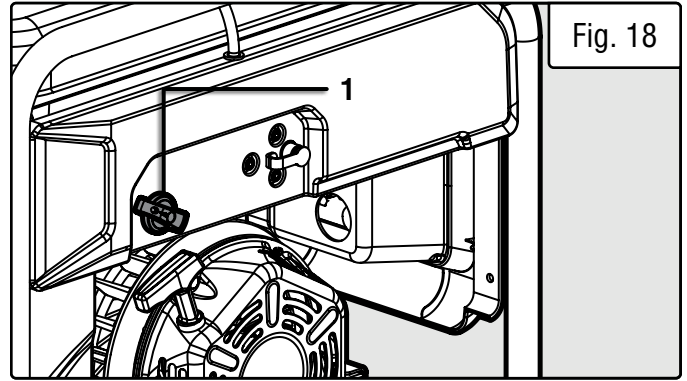

Fig. 18
2. Turn the fuel selector switch (Fig. 18 - 1) to the desired fuel source.